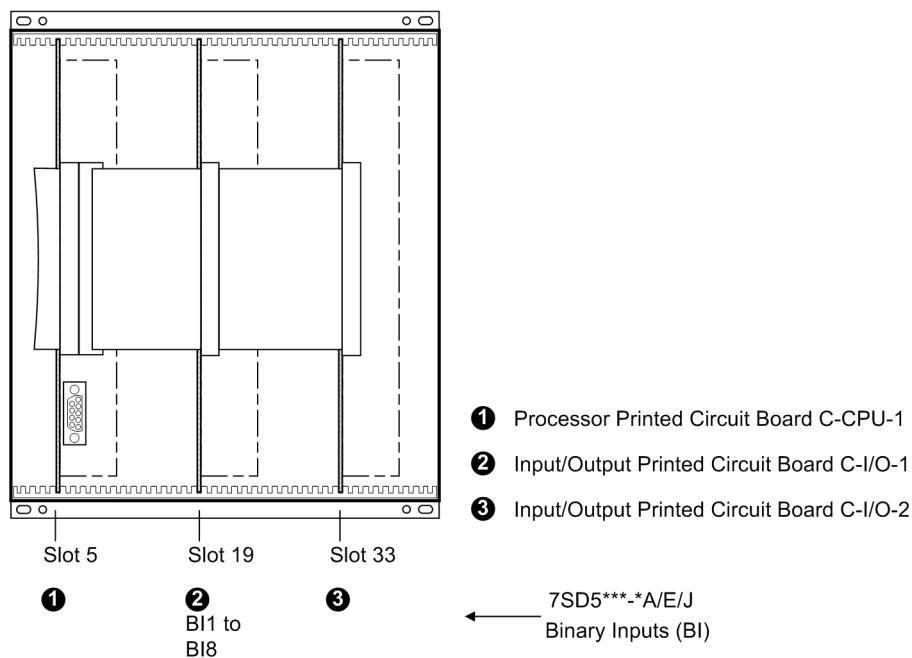
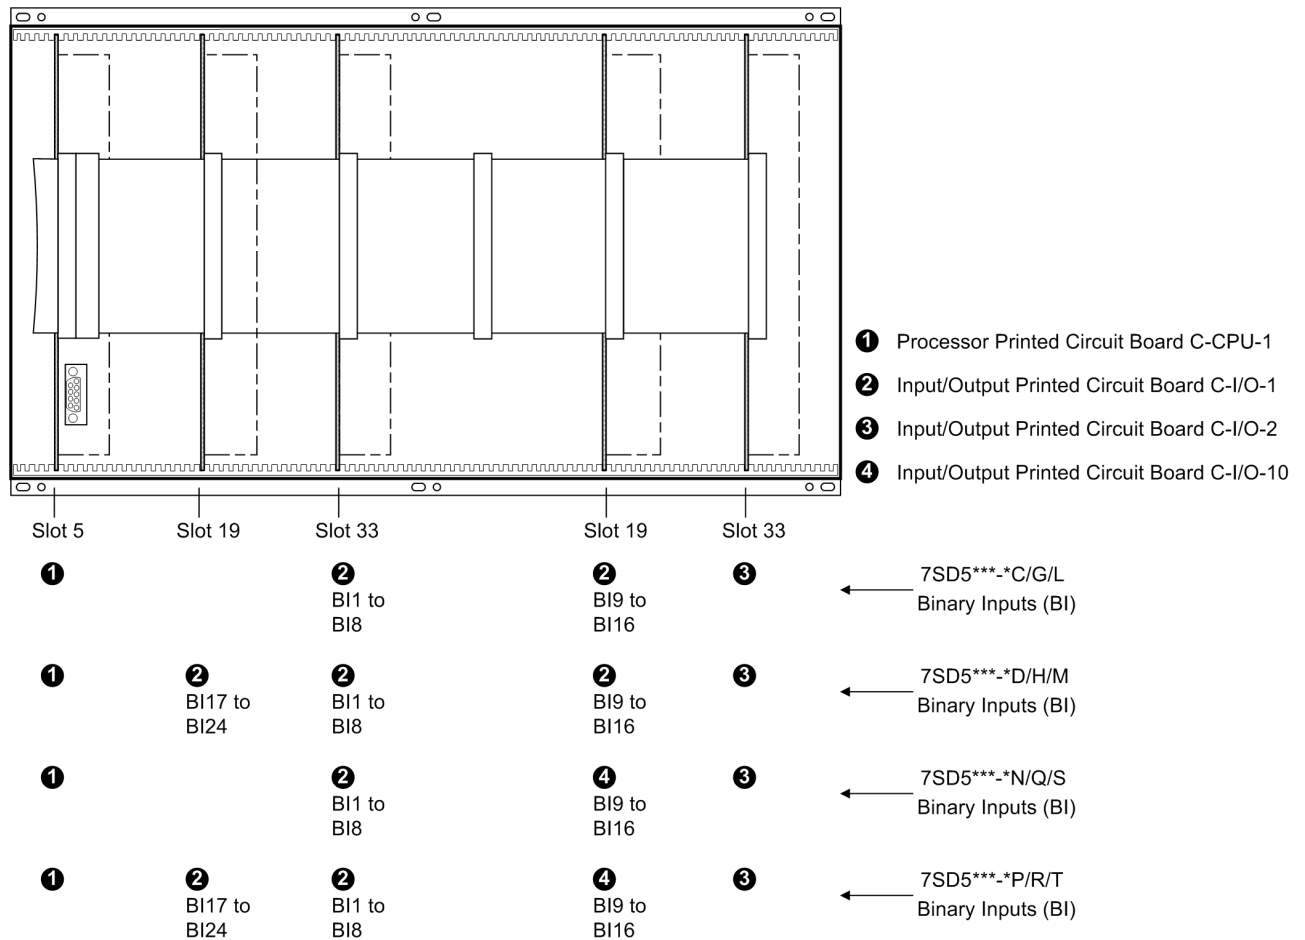

Figure 3-3 Front view with housing size $1/2$ after removal of the front cover (simplified and scaled down)
Figure 3-4 Front view with housing size $1\frac{1}{4}$ after removal of the front cover (simplified and scaled down)
The assembly of the boards for the housing size $1/2$ is shown in Figure 3-3 and for the housing size $1/1$ in Figure 3-4.
- Disconnect the ribbon cables between the processor board C-CPU-1 (No. 1 in Figure 3-3 or 3-4) and the input/output board I/O (according to order variant No. 2 to No. 3 in Figure 3-3 or 3-4).
- On the input/output board C-I/O-1 (No. 2 in Figure 3-3, slot 19) for housing size $1\frac{1}{2}$,
- On the input/output board C-I/O-1 (No. 2 in Figure 3-4, slot 33 left) for housing size $1\frac{1}{4}$,
- In versions 7SD5***-***D/H/M** (housing size $\frac{1}{1}$ with 32 binary outputs) this is valid for the binary outputs BO16 and BO24 (Figure 3-4, slot 19 left and right);
- In versions 7SD5***-***C/G/L** (housing size $\frac{1}{1}$ with 24 binary outputs) this is valid for the binary output BO16 (Figure 3-4, slot 19 right);
- In versions 7SD5***-***P/R/T** (housing size $\frac{1}{1}$ with 32 binary outputs and command acceleration) this is valid for the binary output BO24 (Figure 3-4, slot 19 left).
with housing size 1/2: No. 3 in Figure 3-3, slot 33,
with housing size 1/1: No. 3 in Figure 3-4, slot 33 right.
with housing size $1\frac{1}{2}$: No. 3 in Figure 3-3, slot 33,
with housing size $1\frac{1}{4}$: No. 3 in Figure 3-4, slot 33 right.
The interface modules are located on the processor board C-CPU-1 (No. 1 in Figure 3-3 and 3-4).